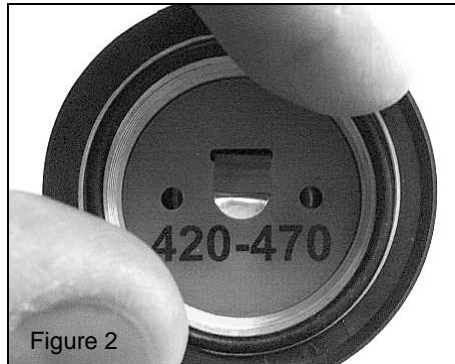

Figure 2
3. Pre-Installation (Figure 2):
- b. Ensure O-ring is properly seated within O-ring groove as shown in Figure 2.
- c. **Important:** Verify proper operational frequency is stamped on the base of the coil as shown in Figure 2.